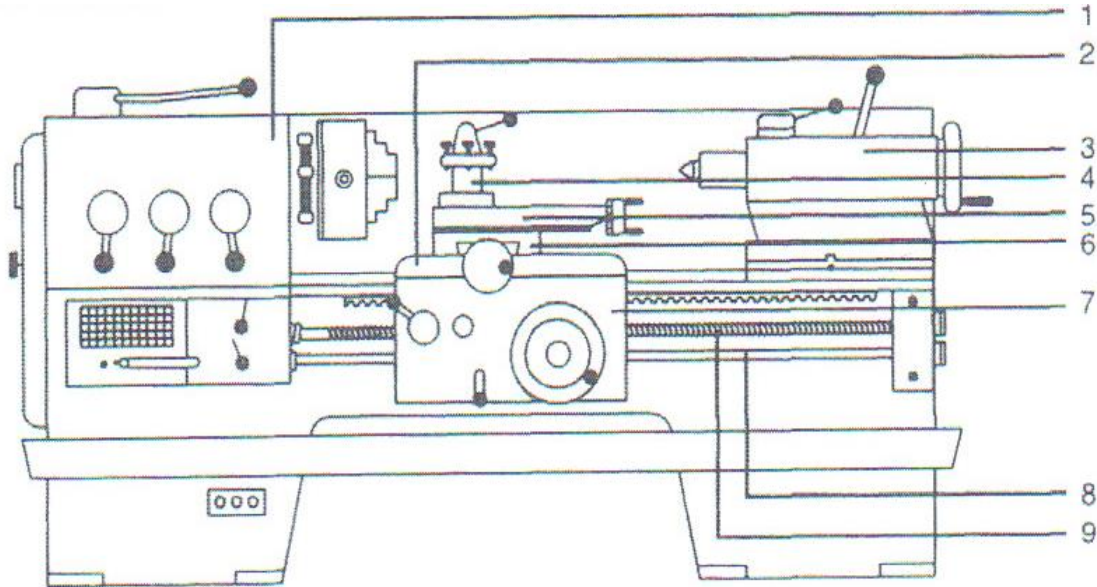

FIGURE 2
5.1 The diagram below shows a sketch of a centre lathe. Write down the numbers (1–9) as indicated in FIGURE 2 in the ANSWER BOOK and identify the parts next to each number.